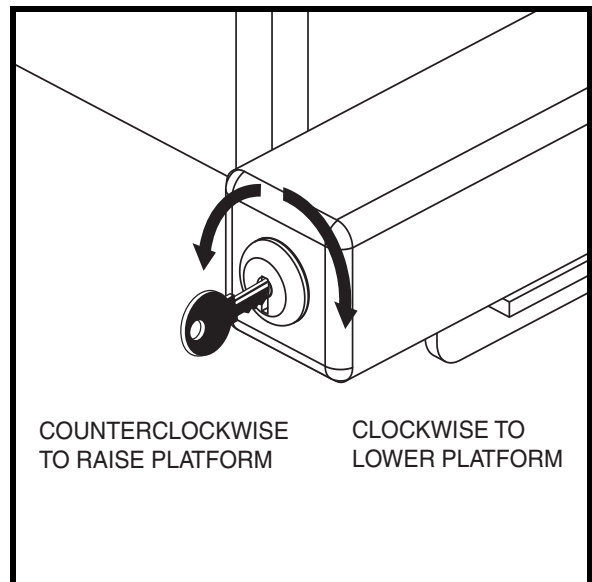

Figure 13. Key Switch Operation
2. Turn and hold the key clockwise to lower the lift platform. See figure 13. Release the key as soon as the lift platform touches the ground.
4. Raise the lift platform by turning and holding the key in the counterclockwise direction. See figure 13. Continue to raise the lift until the motor stops, then release the key.